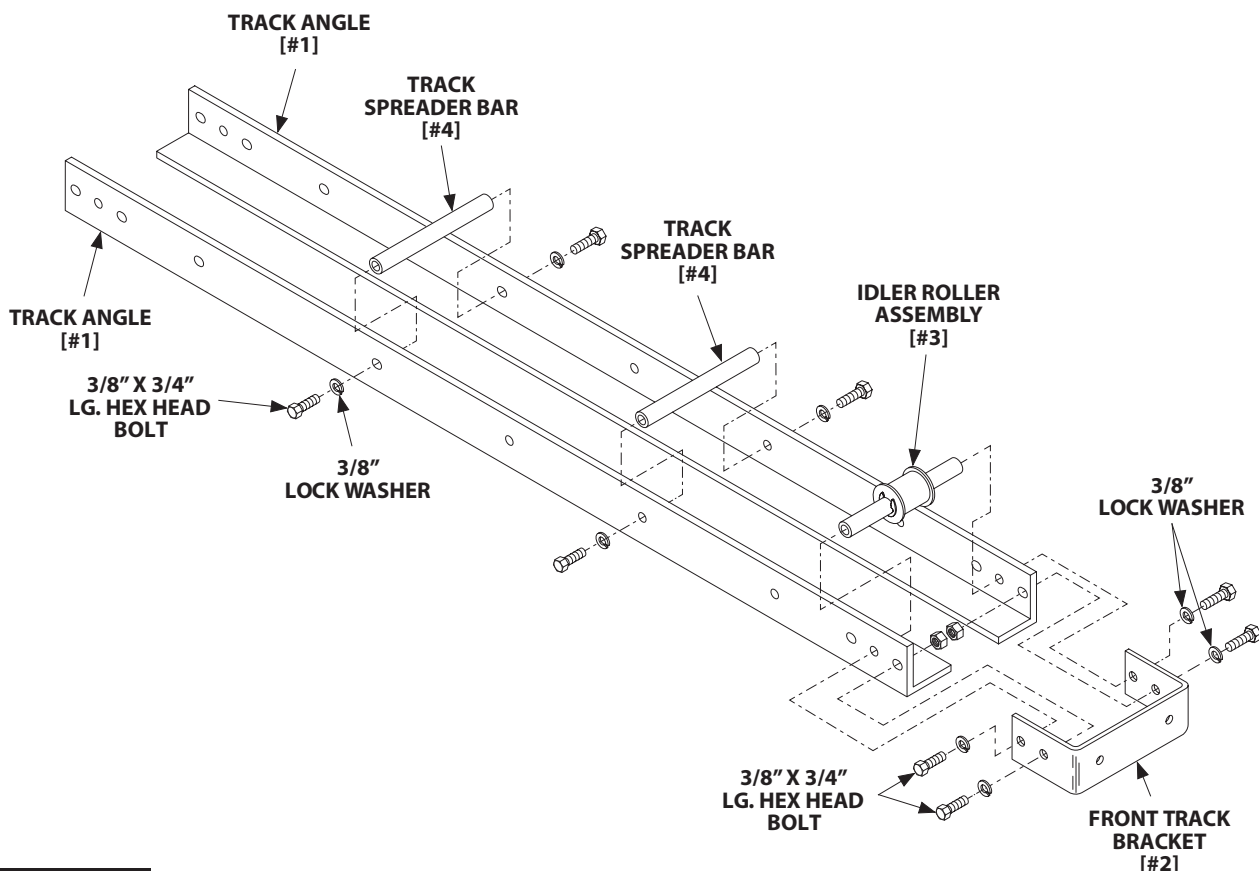

FIGURE 2
1. Lay Track Angles [#1] on work surface as shown in **Figure 2**.
2. Install Front Track Bracket [#2] and Front Idler Roller Assembly [#3] to one end of track using 3/8" x 3/4" long hex head bolts and 3/8" lock washers, as shown in **Figure 2**.
3. Install Track Spreader Bars [#4] evenly spaced over length of track using 3/8" x 3/4" long hex head bolts and 3/8" lock washers, as shown in **Figure 2**.